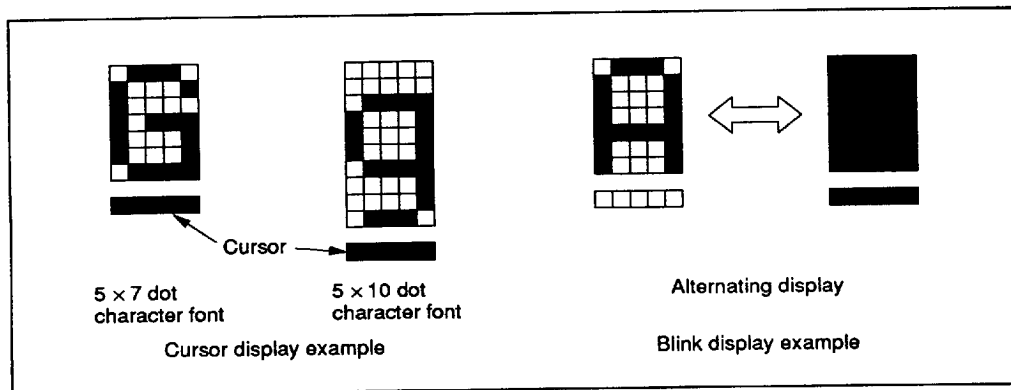

Figure 16 Cursor and Blinking
**C:** The cursor is displayed when C is 1 and not displayed when C is 0. Even if the cursor disappears, the function of I/D or other specifications will not change during display data write. The cursor is displayed using 5 dots in the 8th line for  $5 \times 7$  dot character font selection and in the 11th line for the  $5 \times 10$  dot character font selection (figure 16).
**B:** The character indicated by the cursor blinks when B is 1 (figure 16). The blinking is displayed as switching between all blank dots and displayed characters at a speed of 320-ms intervals when  $f_{cp}$  or  $f_{osc}$  is 320 kHz. The cursor and blinking can be set to display simultaneously. (The blinking frequency changes according to  $f_{osc}$  or the reciprocal of  $f_{cp}$ . For example, when  $f_{cp}$  is 270 kHz,  $320 \times 320/270 = 379.2$  ms.)